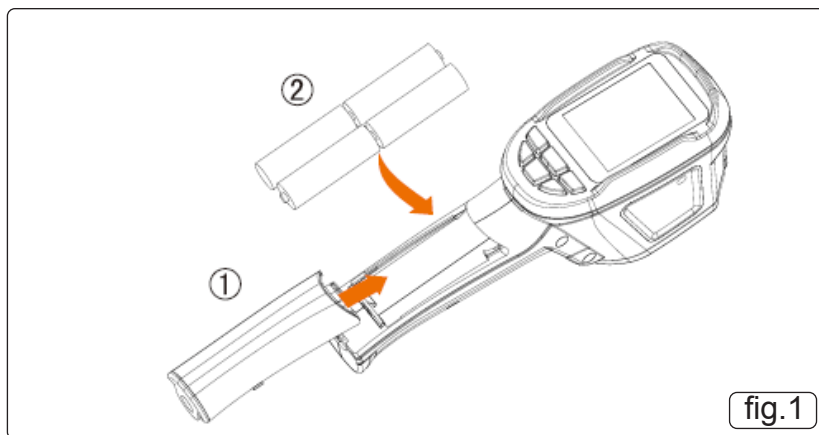

fig.1
4.1.1. Install the four batteries into the Thermal Imaging Camera (fig.1) ensuring the correct polarity.